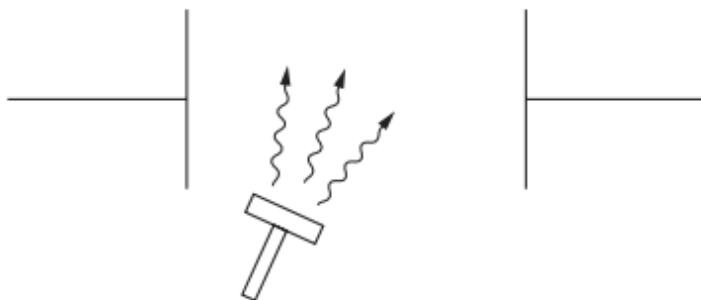

Fig. 2.1
- 2 Many homes have smoke detectors fitted to the ceilings of certain rooms to provide an early warning of a fire. These detectors contain a weak radioactive source that ionises the air between two metal plates. See Fig. 2.1.